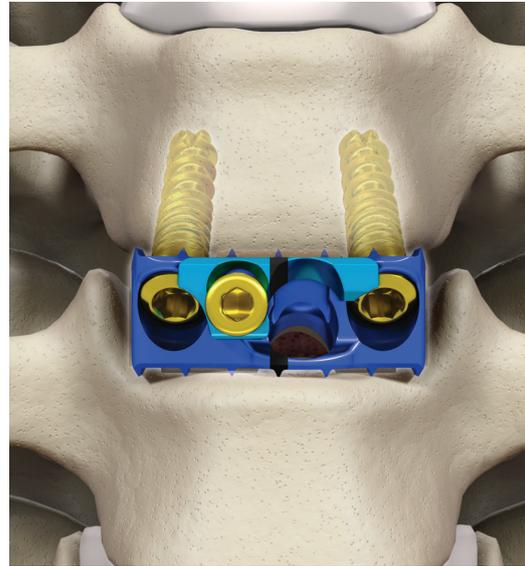

Figure 30
- Repeat the previous step on the contralateral side. When both lateral screws have been placed, remove the ATO inserter guide by sliding the inserter sleeve toward the modular impaction cap handle and pulling the inserter away from the implant using a gentle, side-to-side motion (Figure 30).